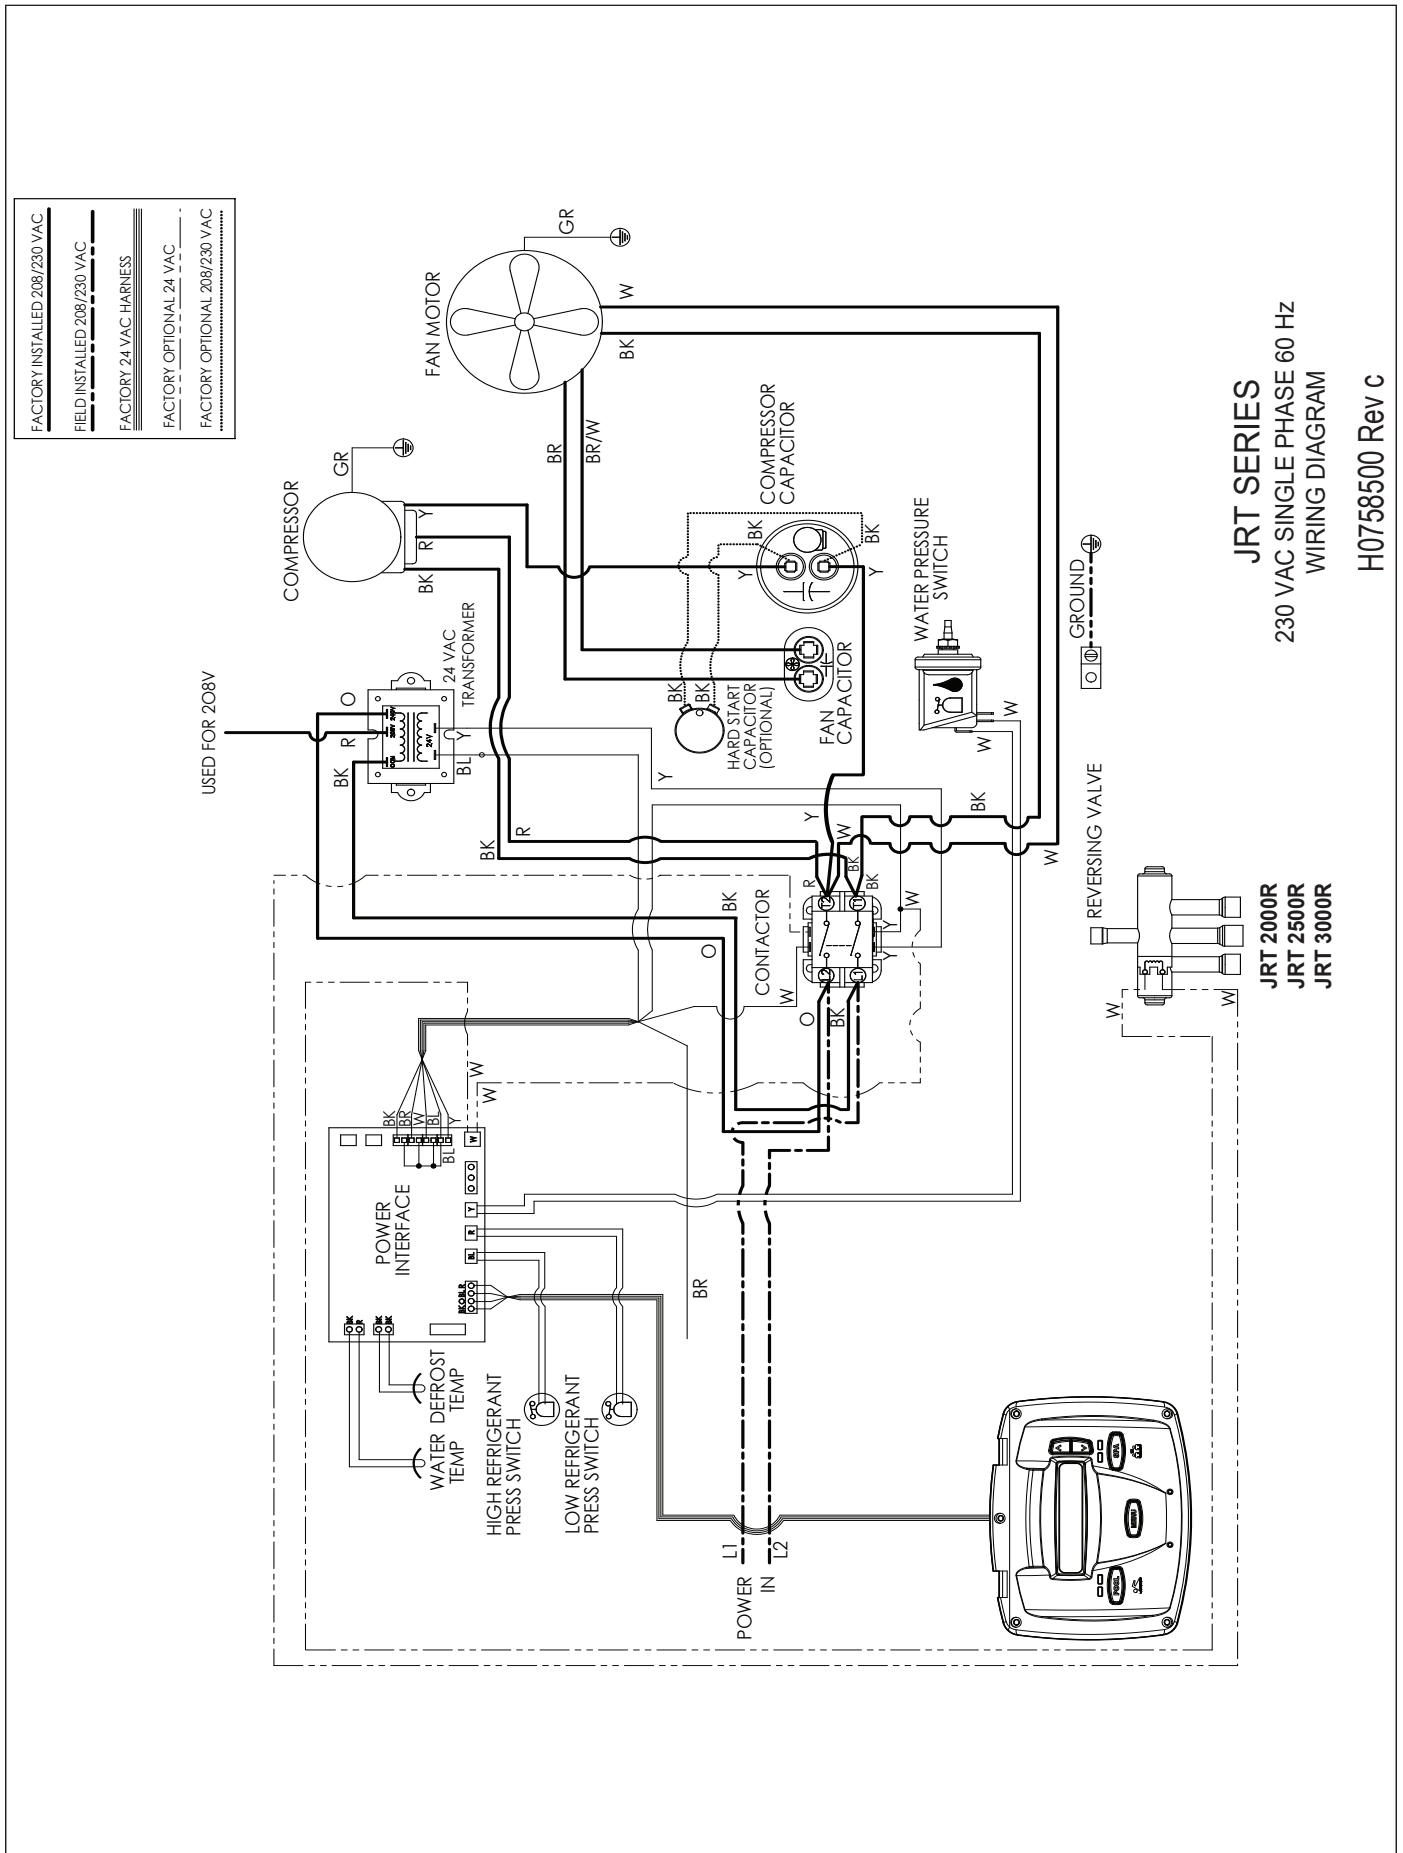
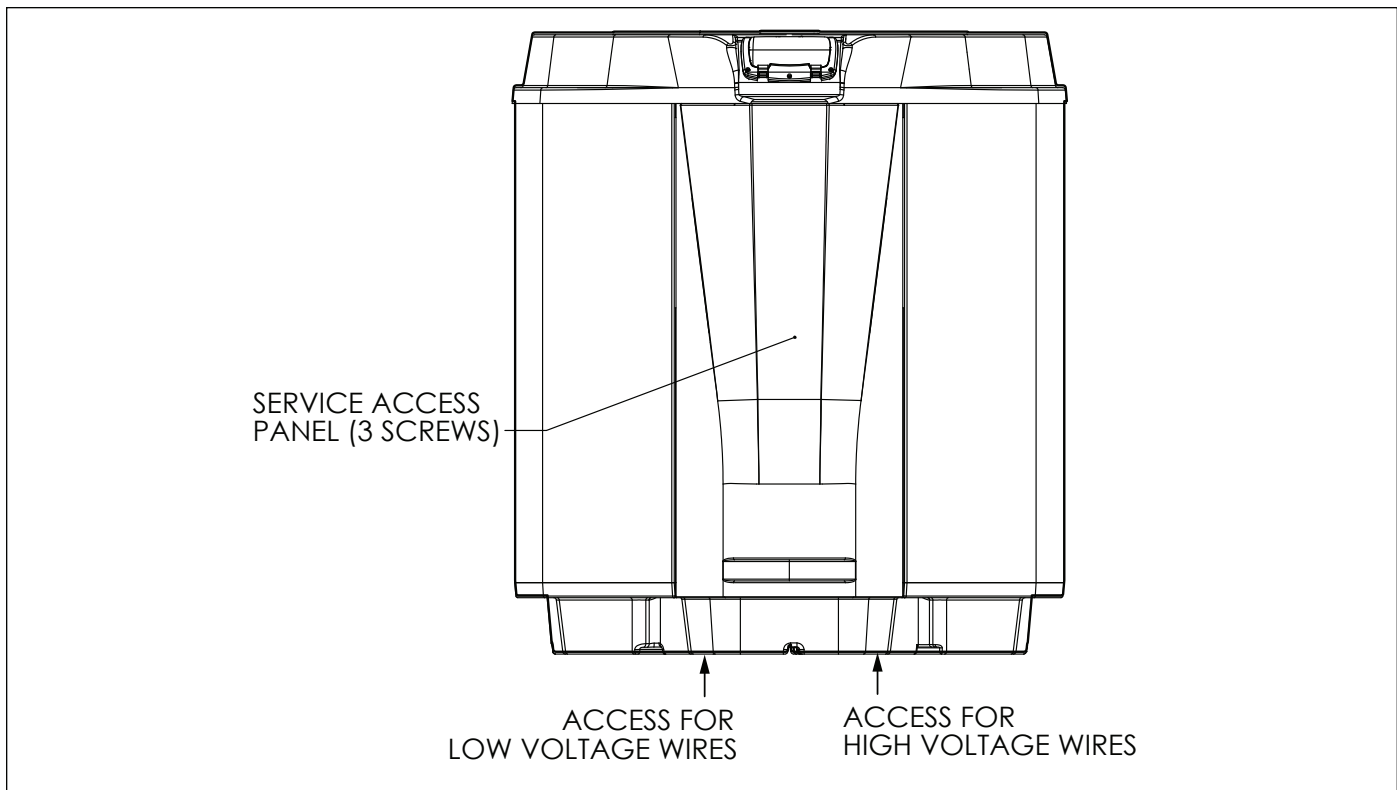

Figure 8. JRT Single-Phase Electrical Supply Wiring Diagram
Figure 9. Jandy JRT Heat Pump Front View
Wiring connections must be made exactly as shown in the wiring diagram found on the inside of the heat pump access compartment (see Figure 8 for single phase electrical wiring). The heat pump must include a definite means of grounding and bonding. There is a bonding lug on the right side of the heat pump, where a bond wire must be attached.
2. Remove the three (3) screws that attach the service/access panel to the heat pump unit (see Figure 9).
8. Connect the wires to the terminals on the main contactor as shown in the wiring diagram. See Figure 8.
2. Remove the screws that attach the service/access panel to the heat pump unit and the cover to the junction box (see Figure 9).
3. Run the wires from the pool/spa control system into the conduit connection labeled “Low Voltage Connection”, located on the lower right hand side of the heat pump (see Figure 9).
- Remove the screws that attach the service/access panel to the heat pump unit and the cover to the junction box (See Figure 9).
- Run the wires from the pool/spa control system into the conduit connection labeled “low voltage connection”, located on the lower right hand side of the heat pump (See Figure 9).
2. Remove the three (3) screws that attach the front panel to the heat pump and remove the front panel. See Figure 9.
5. Run four (4) 22 AWG solid copper wires into the low voltage soft membrane located on the lower left-hand side of the heat pump. The wires may be up to 300 feet (91.4 m) in length.
6. Connect the wires to the 4 position terminal on the lower left-hand corner of the Power Interface PC Board, labeled “User Interface1”. See Figure 8. The wires will be added to the existing wiring to the User Interface installed on the heat pump.